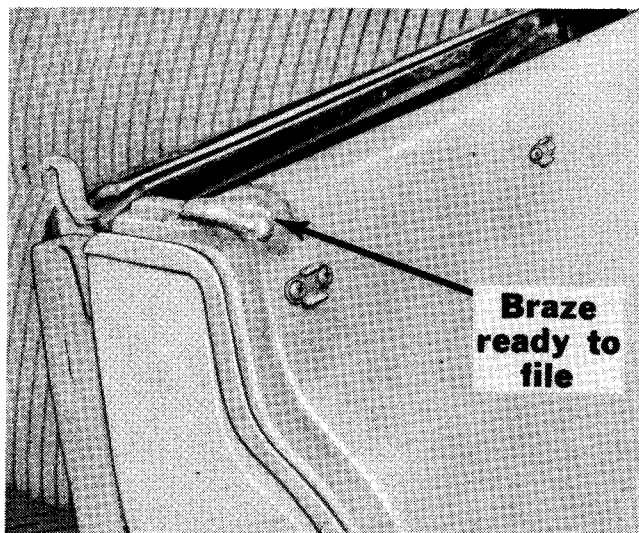

FIG. 4
4. Braze the crack and fill with braze metal, using a torch from the inside of the car toward the outside so that all sparks go away from the car. A surplus of brazing material should be used so that when it is filed away it leaves a smooth surface. See Fig. 4.